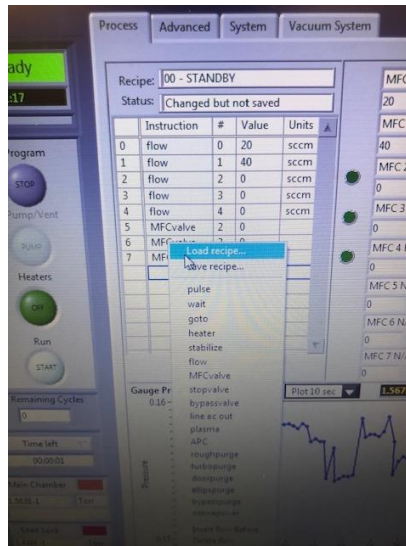

Figure 7: Right click in recipe area to access drop down menu
- 9.6.1. Right click in the white field, and select “load recipe”. **Figure 7**.